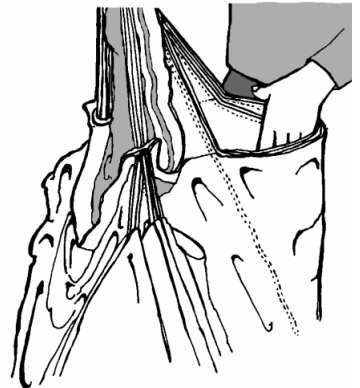

Figure 5
Step 7.) Step out from between the line groups and hold them in one hand. Clear the bottom seams of each cell with the “knife edge” of the hand. (See Figure 5.) This must be done between the “A”, “B”, “C”, and “D” line groups. Clear the four seams of each cell to the left and right. After all the seams are cleared on each side of the canopy, clear the trailing edge between the control lines.